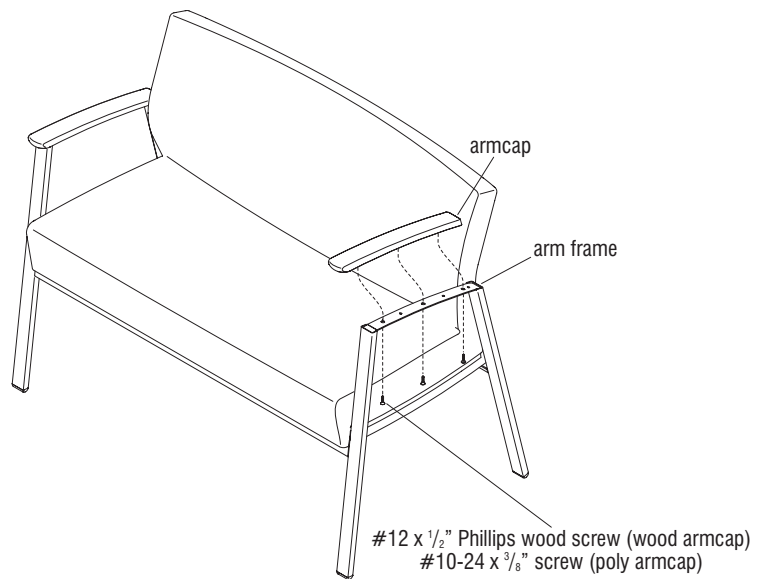

Figure 3
1. To remove the armcap, begin by twisting out the three #12 x $\frac{1}{2}$ " Phillips wood screws securing the wood armcap to the arm frame. If armcap is poly, remove three #10-24 x $\frac{3}{8}$ " screws securing the poly armcap to the arm frame (Figure 3).
2. Remove the armcap from the arm frame (Figure 3).